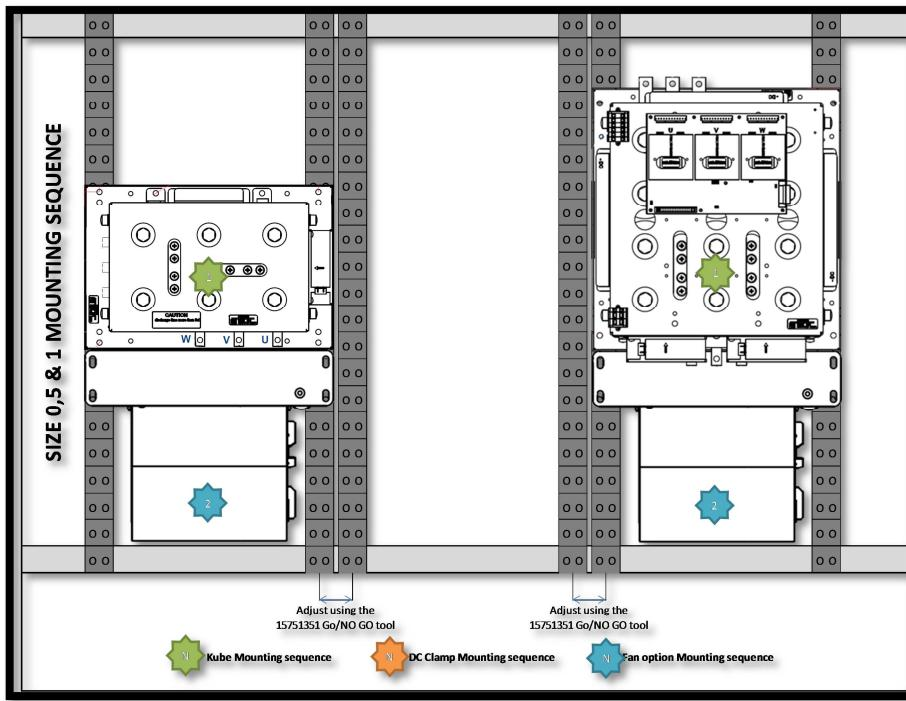

Figure 3: Sizes T0.5 & T1 mounting process
- Step 1      Prepare the rails in the cabinet in order to match the attachment points of the main frame of the central KUBE (n°1 on Figure 3: Sizes T0.5 & T1 mounting process)